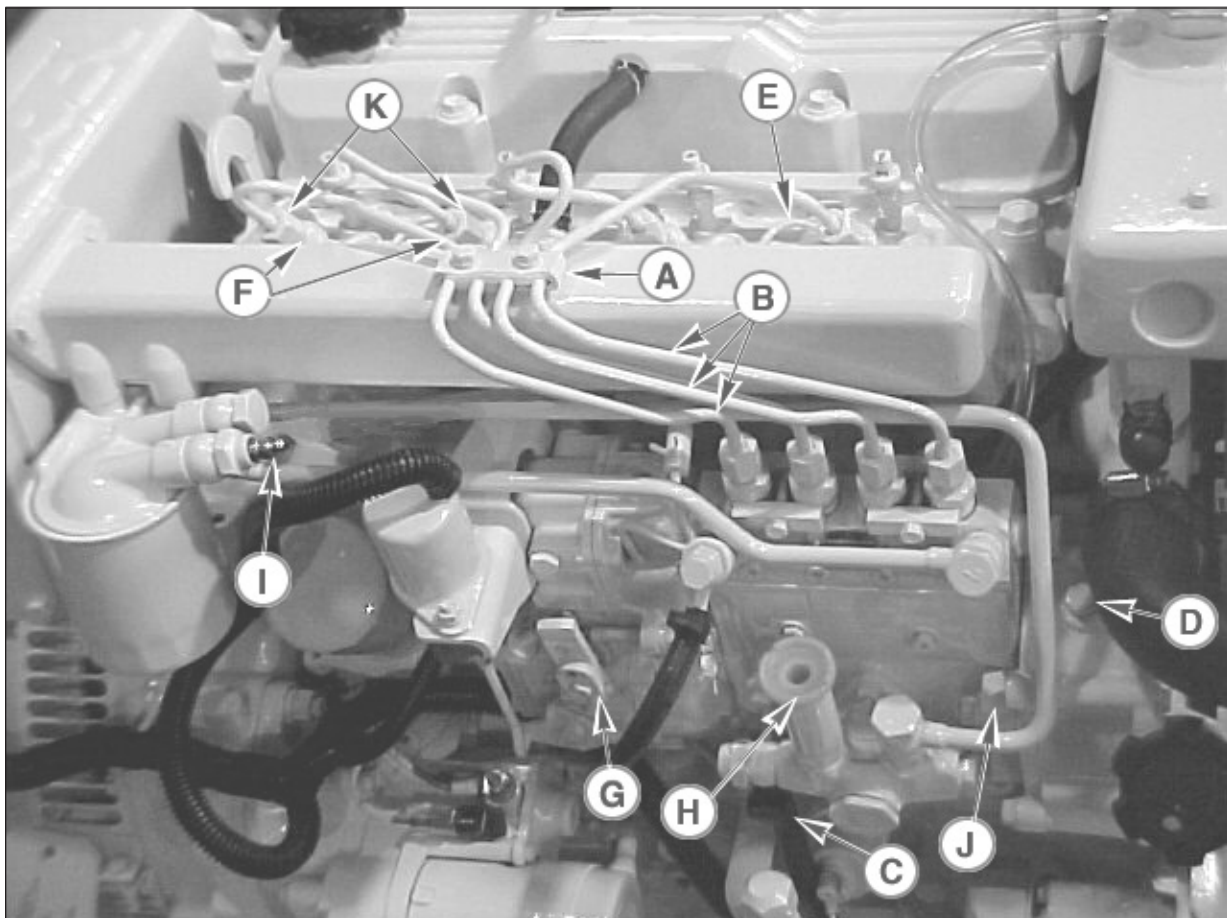

Figure 12: Fuel System
- c. Remove delivery lines (Figure 12-B) by disconnecting from injectors and injection pump. Remove all lines as an assembly; do not remove the spacers. Cover the ends of the lines, the injector inlets and injection pump outlets to keep dirt out.
- e. Loosen the injector (Figure 12-I). Remove the injector.
- c. Reinstall injection lines (Figure 12-B). Tighten flare nuts (Figure 12-K) at injection pump to 18.2 - 25.3 ft/lbs (2.5 - 3.5 k/gm). Leave the lines loose at injectors for bleeding.
- d. Bleed the injection lines (Figure 12-B). Crank the engine to fill the lines. Tighten flare nuts at injectors to 18.2 - 25.3 ft/lbs (2.5 - 3.5 k/gm).
- b. Remove the injection lines (Figure 12-B) from the pump and injectors. Remove all lines as an assembly. Do not remove the spacers. Cover the ends of the lines, the injector inlets, and the injection pump outlets to keep dirt out of the injectors, lines, and pump.
- c. Remove the plug (Figure 12-D) from the timing case cover. Use an indelible marker to put a mark on the injection pump gear through the plug hole. You will use this mark to align the pump during reassembly. Do not rotate the crankshaft after marking.
- d. Remove the 4 mounting nuts (Figure 12-J). One (1) is found on the back side of the injection pump, and three (3) are found on the front side.
- c. Pressurize the system with the hand primer pump (Figure 12-H).